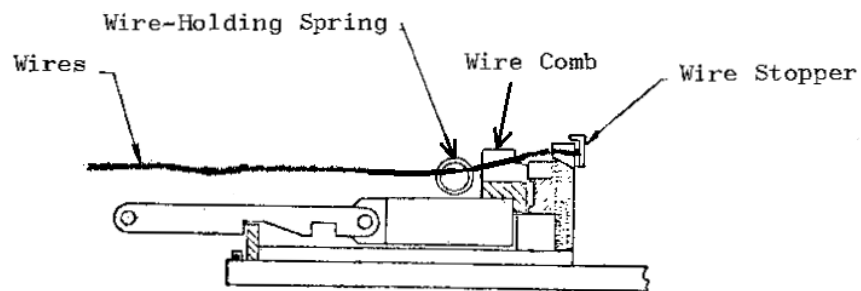
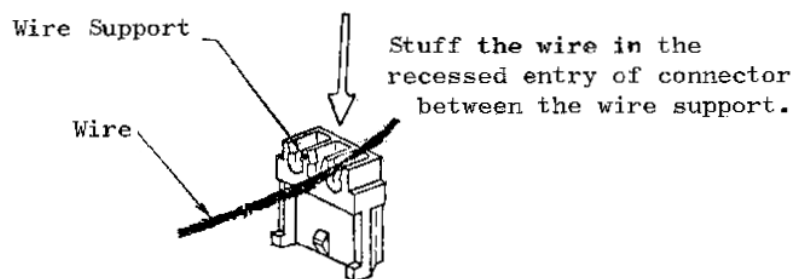

Fig. 5
Fig. 6
- (4) Take up one discrete wire, and insert its end into the groove of the desired contact position straight forward until it bumps against the wire stopper. The wire end must be directly bottomed against the wire stopper. Then, depress the wire into the wire groove of the comb to have it settled by the fingers. Repeat insertion of the wires until all the connector positions are filled with the wires in line side by side. (See Fig. 5 and Fig. 6.)
The lead-out of the wires should be **pinched** in the coil slots of the wire-holding spring as shown in Fig. 5.